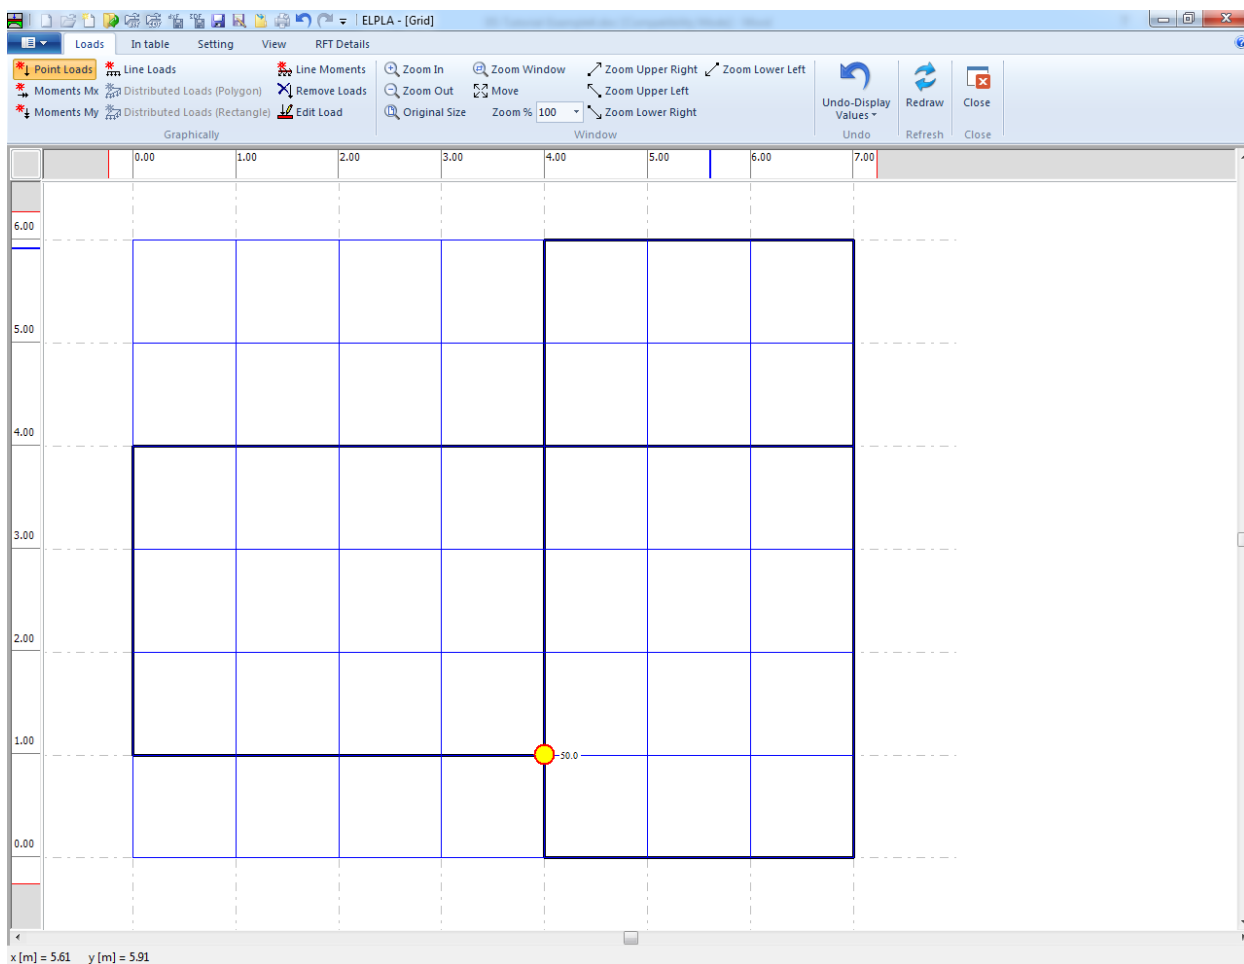

Figure 4.26 Concentrated load
After you have completed the definition of the concentrated load, the screen should look like the following Figure 4.26.
- Choose "Save" command from "File" menu in Figure 4.26 to save the load data
- Choose "Close" command from "File" menu in Figure 4.26 to close the "Loads" Window and return to the main Window.